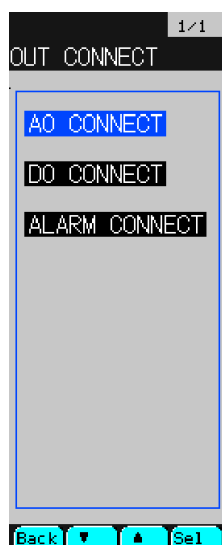
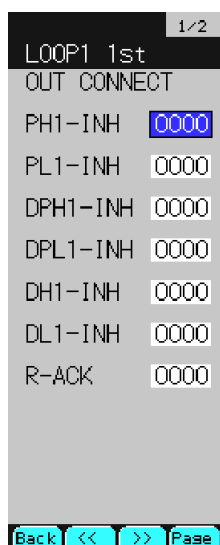
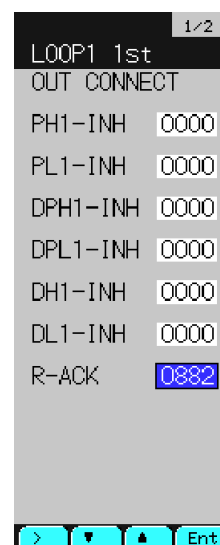

Fig. 4-22
Fig. 4-23
Fig. 4-24
- ① Press the **MENU** key several times until “MENU 3/3” screen appears.
- ② Press “▼” key repeatedly until the cursor is aligned with “OUT CONNECT” and press the “Sel” key.
- ③ “OUT CONNECT” screen appears (Fig. 4-22).
- ④ Press “▼” key for aligning the cursor with “ALARM CONNECT” and press the “Sel” key.
- ⑤ “LOOP1 1st” screen appears (Fig. 4-23).
- ⑥ Press the chameleon change key  for selecting “>” “▼” “▲” “Ent” in the chameleon key display area.
- ⑦ Likewise, operate “>”, “▼”, “▲” and “Ent” keys for setting “R-ACK” = “0882” and enter it (Fig. 4-24).
- ⑧ Press the chameleon change key for selecting “Back” “<<” “>>” “Page”.